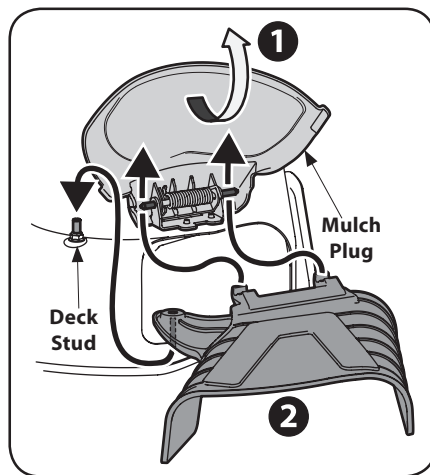

Figure 2-13
1. On the side of the mower deck, lift the mulch plug. See Figure 2-13.
2. Slide two hooks of side discharge chute under hinge pin on mulch plug assembly and position hole in the chute over and on to the deck stud located behind the discharge opening. See Figure 2-13. Lower mulch plug.